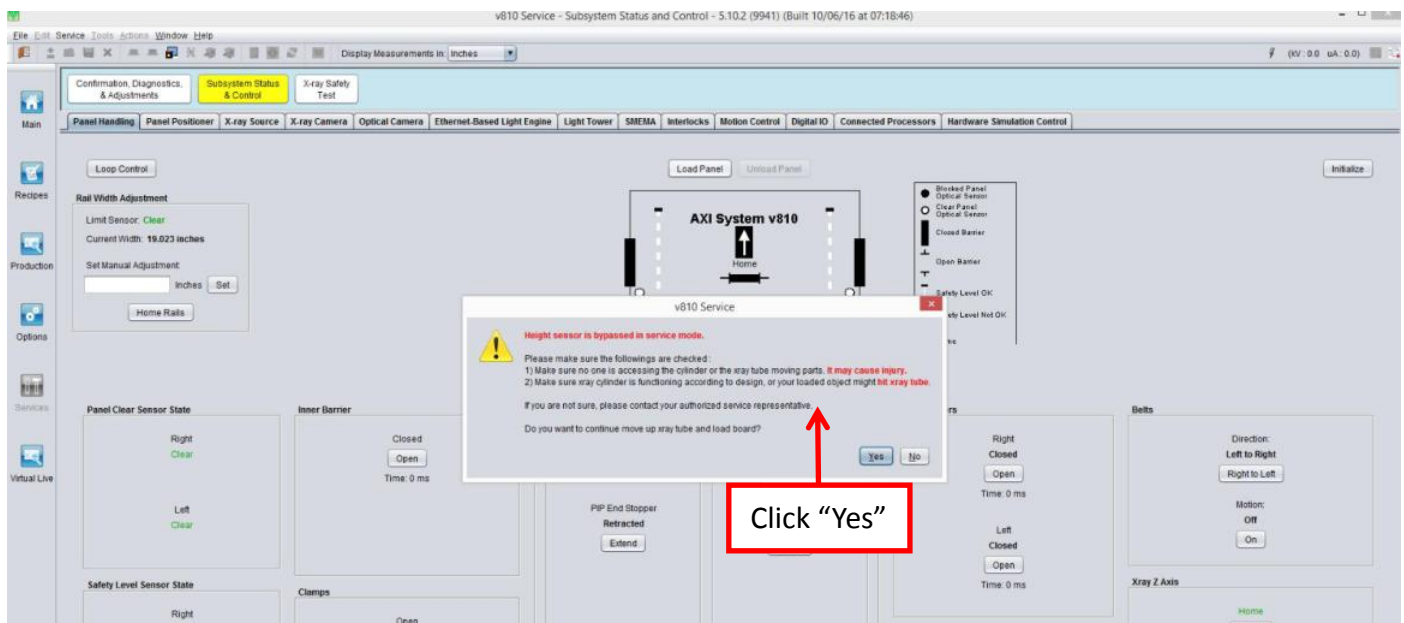

Figure 6 Panel Handling (Warning Message)
- Click “Yes” when “Warning Message” prompt out as shown in Figure 6